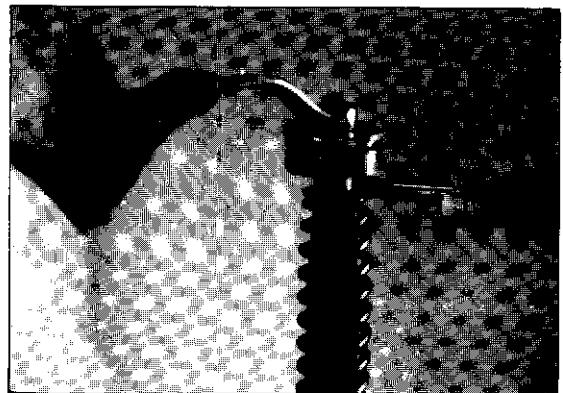

Fig. 14
- 28) Tighten the piston rod lock nut against the fork bolt comp. by holding adjuster comp. [Fig. 14].